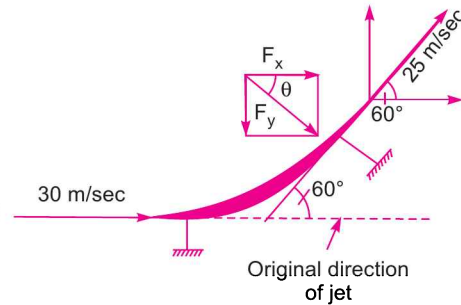

Fig. 17.13 (a)
–ve sign means the angle  $\theta$  is in the clockwise direction with  $x$ -axis as shown in Fig. 17.13 (a)
**Problem 17.16** (a) A stationary vane having an inlet angle of zero degree and an outlet angle of  $25^\circ$  as shown in Fig. 17.13(b), receives water at a velocity of 50 m/s. Determine the components of force acting on it in the direction of the jet velocity and normal to it. Also find the resultant force in magnitude and direction per unit weight of the flow.